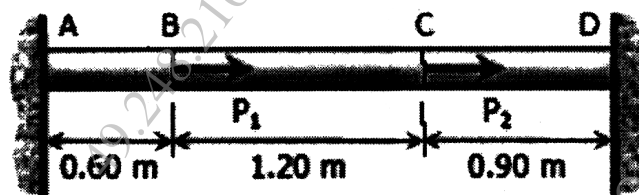

Fig. 1
1. (a) A homogeneous bar with a cross sectional area of 500 mm^2 is attached to rigid supports. It carries the axial loads $P_1 = 25 \text{ kN}$ and $P_2 = 50 \text{ kN}$, applied as shown in Fig.1. Determine the stress in segment BC and CD [6M]